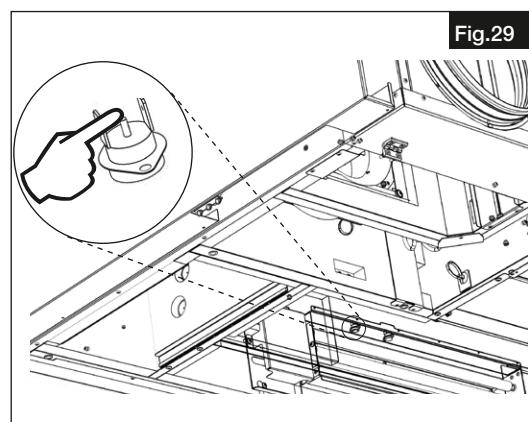

Fig.29
1. Press the reset button for the electrical post-heater (see Fig.29).